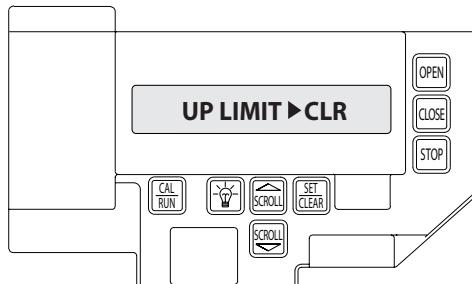

Figure 7
- 2) Press SCROLL  key until display reads "UP LIMIT>CLR" or "DOWN LIMIT>CLR" **Figure 7**.